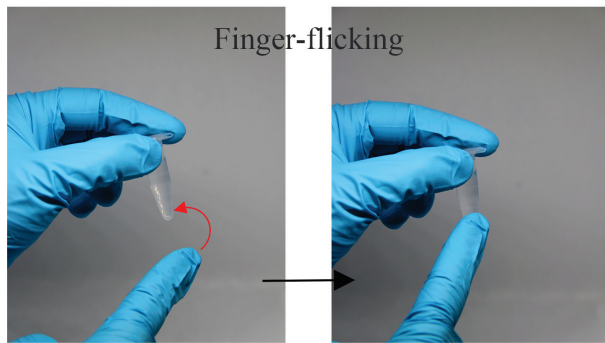
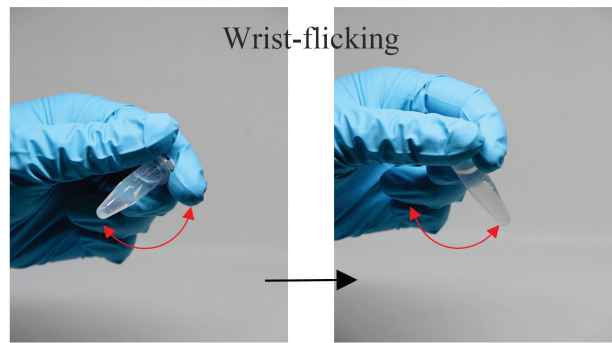
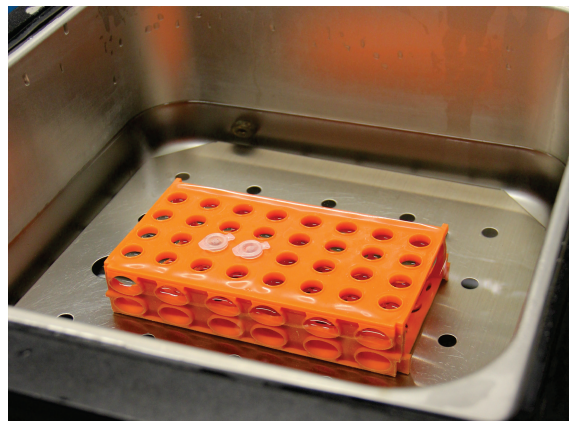

Fig. 23
Fig. 24
Fig. 25
19. Gently finger-flick (Fig. 23) or wrist-flick (Fig. 24) the tubes and allow them to incubate in a 37°C water bath for 30 minutes (Fig. 25). Finger-flick or wrist-flick the tubes every 10 minutes.